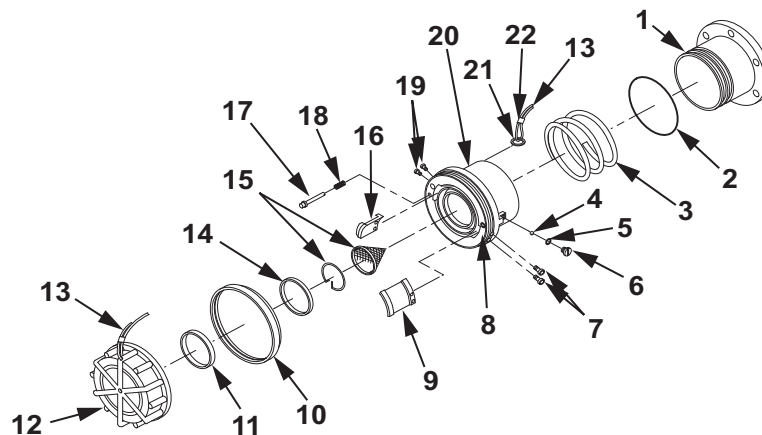

Figure 2. Non-Valved Dry-Break Coupling Assembly.
1. Install new seal (Figure 2, Item 11) into the dust cap (Figure 2, Item 12). Use a finger to seat the seal (Figure 2, Item 11) in the groove of the dust cap (Figure 2, Item 12).
If cable (Figure 2, Item 13) was cut to remove it from the dust cap (Figure 2, Item 12), a new cable (Figure 2, Item 13) must be installed.
2. Attach a length of cable (Figure 2, Item 13), approximately 18 in. long, to dust cap (Figure 2, Item 12) by looping about 6 in. of cable (Figure 2, Item 13) through the hole in dust cap (Figure 2, Item 12), forming a loop back on the cable (Figure 2, Item 13).
3. Retain the loose end of the cable (Figure 2, Item 13) with a sleeve (Figure 2, Item 22).
4. Using a pair of pliers, crush the sleeve (Figure 2, Item 22) to retain the cable (Figure 2, Item 13).
5. Attach the cable (Figure 2, Item 13) to ring (Figure 2, Item 21) by looping cable (Figure 2, Item 13) through the ring (Figure 2, Item 21), forming a loop back on the cable (Figure 2, Item 13).
6. Retain the loose end of the cable (Figure 2, Item 13) with a sleeve (Figure 2, Item 12).
7. Using a pair of pliers, crush the sleeve (Figure 2, Item 12) to retain the cable (Figure 2, Item 13).
8. Install spring (Figure 2, Item 18) into hole in face of coupling (Figure 2, Item 20).
9. Install pin (Figure 2, Item 17) through spring (Figure 2, Item 18) and retain pin (Figure 2, Item 17) by threading ring (Figure 2, Item 21) through the hole in the pin (Figure 2, Item 17).
10. Install lug (Figure 2, Item 9) by matching the holes in the lug with the holes in the coupling (Figure 2, Item 20).
11. Install two screws (Figure 2, Item 7) through coupling (Figure 2, Item 20) and into lug (Figure 2, Item 9).
12. Using torque wrench and screwdriver bit, torque screws (Figure 2, Item 7) to 6 in. lb (0.68 N-m).
13. Install lug (Figure 2, Item 16) by matching the holes in the lug with the holes in the coupling (Figure 2, Item 20).
14. Install two screws (Figure 2, Item 19) through coupling (Figure 2, Item 20) and into lug (Figure 2, Item 16).
15. Using torque wrench and screwdriver bit, torque screws (Figure 2, Item 19) to 6 in. lb (0.68 N-m).
16. Install bumper (Figure 2, Item 10) with the thin lip seal end facing away from the coupling body (Figure 2, Item 20).
After installation, the outer face of the seal (Figure 2, Item 14) must be smooth and free of wrinkles.
17. Install a new seal (Figure 2, Item 14) into the groove in the face of the coupling (Figure 2, Item 20).
18. Install spring (Figure 2, Item 3) into the groove within the larger opening of the coupling (Figure 2, Item 20).
The inlet adapter (Figure 2, Item 1) contains two grooves. The groove (rounded bottom) nearest the end is for the ball race connection. The second groove (square bottom) is where O-ring (Figure 2, Item 2) will be installed.
19. Lubricate new O-ring (Figure 2, Item 2) with a light coat of petrolatum.
20. Install new O-ring (Figure 2, Item 2) in second groove of inlet adapter (Figure 2, Item 1).
21. Press inlet adapter (Figure 2, Item 1) into coupling (Figure 2, Item 20) to align the groove in the coupling (Figure 2, Item 20) with the groove in the inlet adapter (Figure 2, Item 1).
Do not use any form of grease on balls (Figure 2, Item 4).
When inserting balls (Figure 2, Item 4) in coupling (Figure 2, Item 20), use caution to avoid dropping loose balls. Work over a cleaning cloth.
22. Hold coupling (Figure 2, Item 20) over a cleaning cloth with screw hole facing up and install balls (Figure 2, Item 4), one at a time, rotating coupling (Figure 2, Item 20) back and forth until all 41 balls (Figure 2, Item 4) have been inserted.
23. Install new O-ring (Figure 2, Item 5) and ball retaining screw (Figure 2, Item 6) in coupling (Figure 2, Item 20).
24. Using torque wrench and screwdriver bit, torque ball retaining screw (Figure 2, Item 6) to 25 in. lb (2.8 N·m).
25. Install snap ring and screen (Figure 2, Item 15).